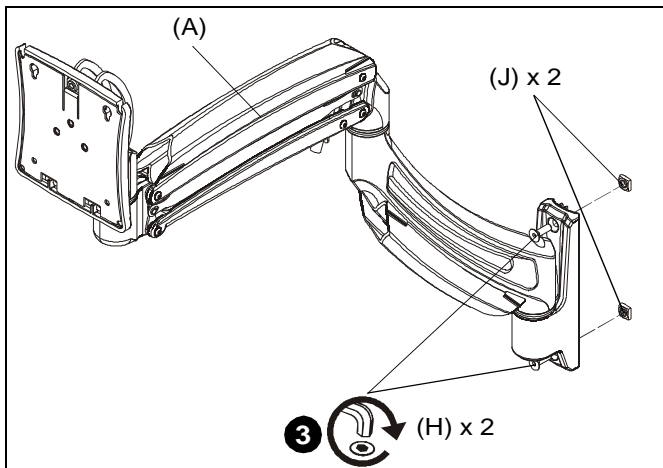

Figure 2
3. Loosely install two #10-24 x 5/8" flat head cap screws (H) through holes on KRA221 arm (A) and into two #10-24 square nuts (J). (See Figure 2)
8. Loosely install two #10-24 x 5/8" flat head cap screws (H) through holes on each KRA221 arm (A) and into two #10-24 square nuts (J). (See Figure 2)
14. Loosely install two #10-24 x 5/8" flat head cap screws (H) through holes on each KRA221 arm (A) and into two #10-24 square nuts (J). (See Figure 2)